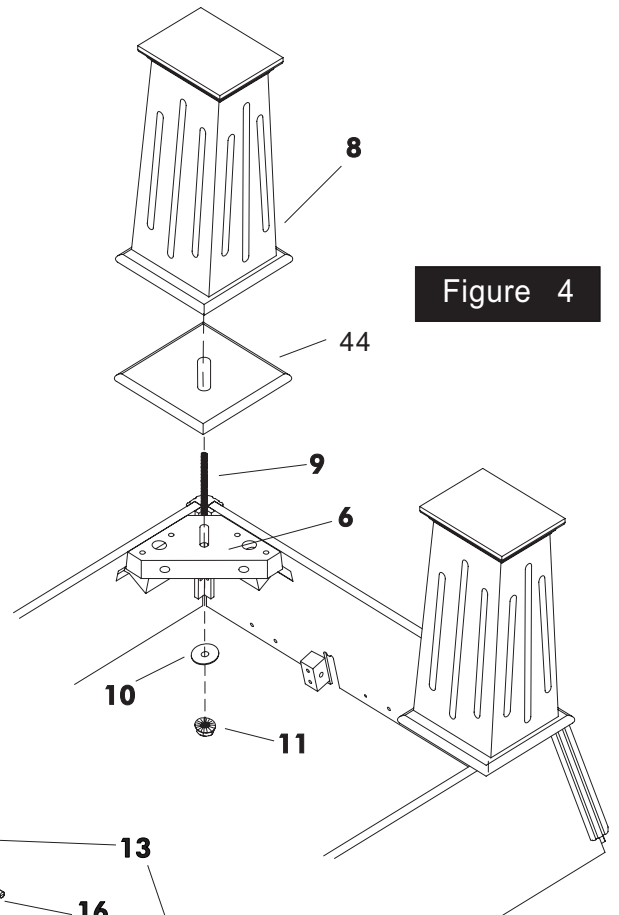

Figure 4
7. Attach legs #8 to Leg Blocks #6 using the stud #9 in Leg, one washer #10 and one nut #11 for each leg. Square leg up with corner of cabinet and tighten. **Remark: Pay attention to the angle of legs when assemble it. See Figure 4.**